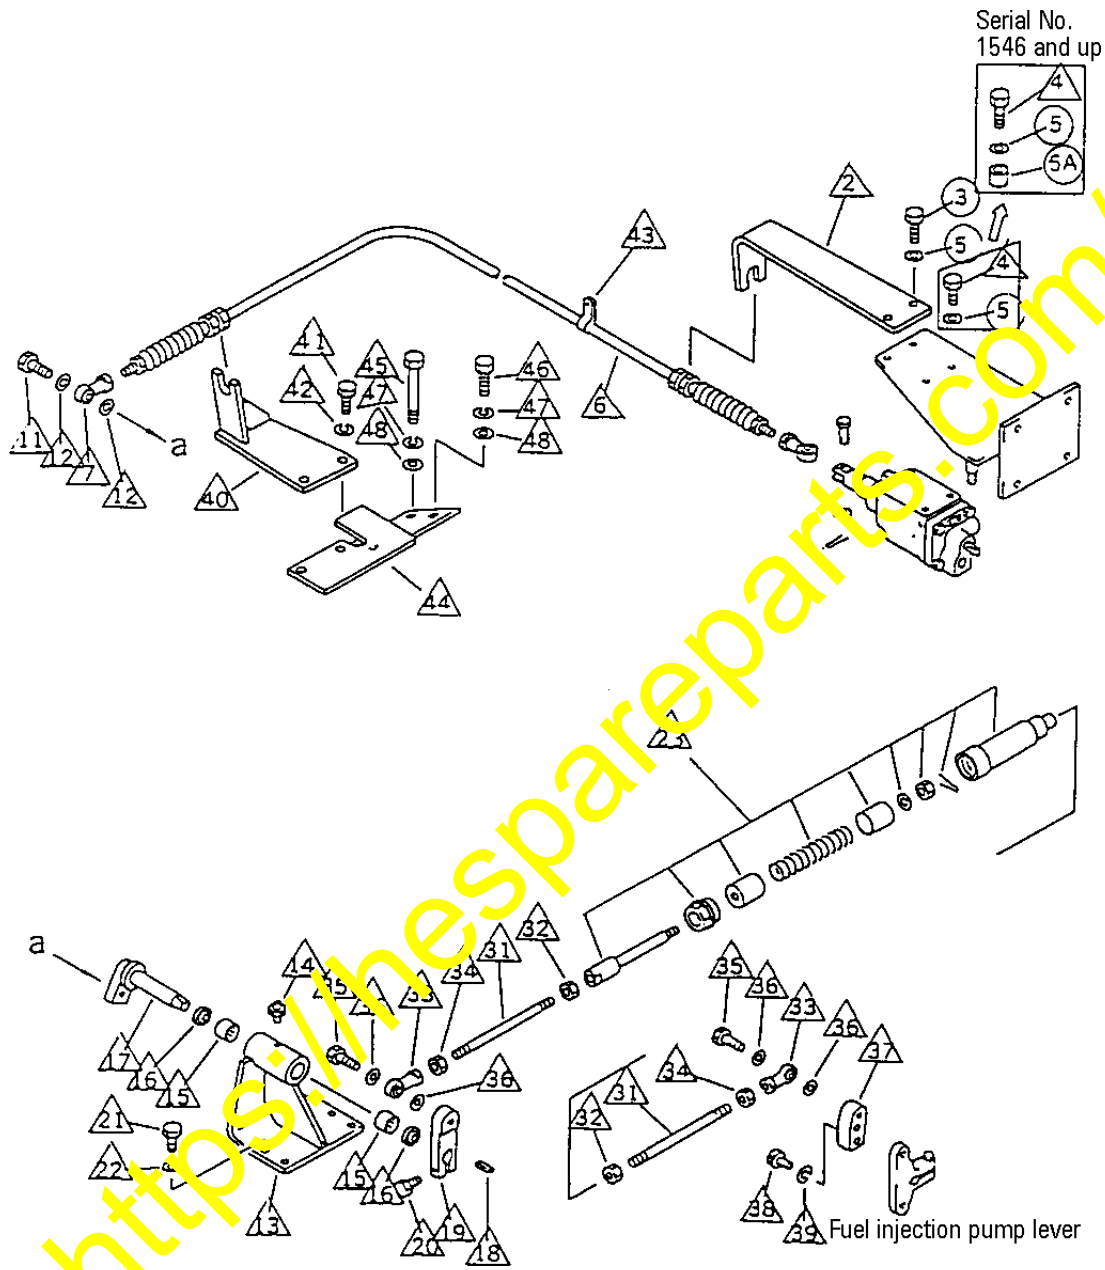

Fig. 25
- (1) Remove the existing accelerator control linkage. (See Fig. 25)